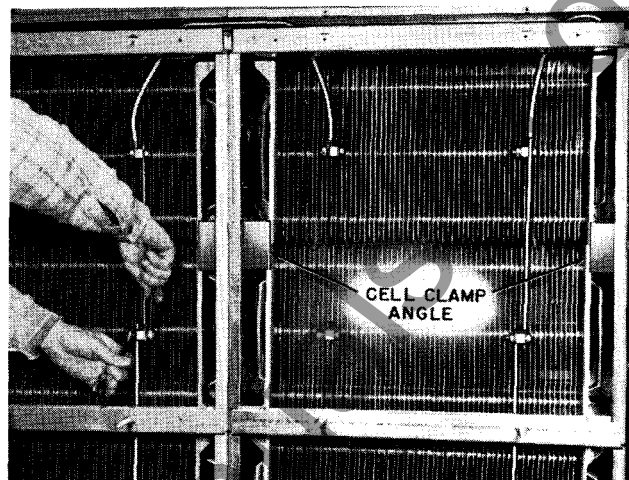

Fig. 33. Installing the Cell Tier Connectors
**Cell Tier Connectors** (taped to each cell) are installed as shown in Fig. 33. One connector is required vertically between cells.